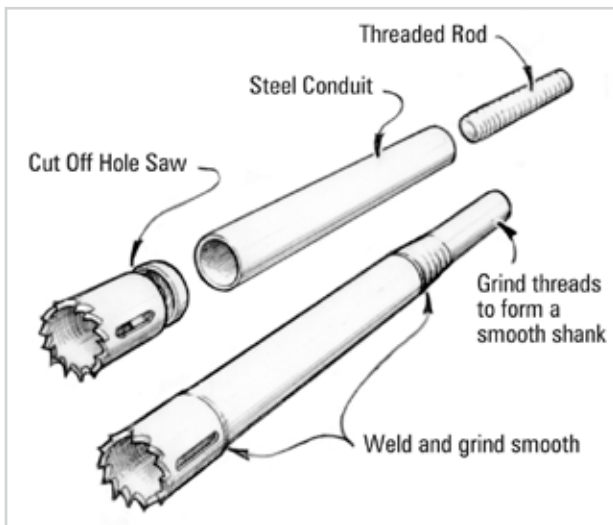

Figure 4-13 A custom keel bolt saw can be made from a pipe section and a standard hole saw.
2. Fabricate a deep engagement hole saw by first cutting the end off a hole saw of slightly larger diameter than the bolt to be repaired. Braze the hole saw teeth to the end of a pipe of the same diameter and long enough to chase the length of your longest keel bolt. Weld a piece of round stock into the other end of the pipe to serve as a bit for a drill chuck. If you have many bolts of many lengths to do, you may want to make several hole saws of different lengths (Figure 4-13).